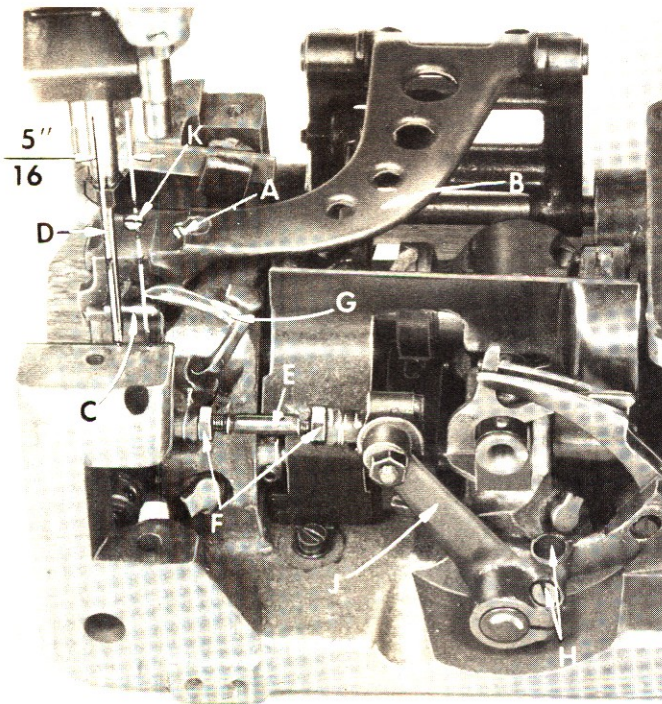
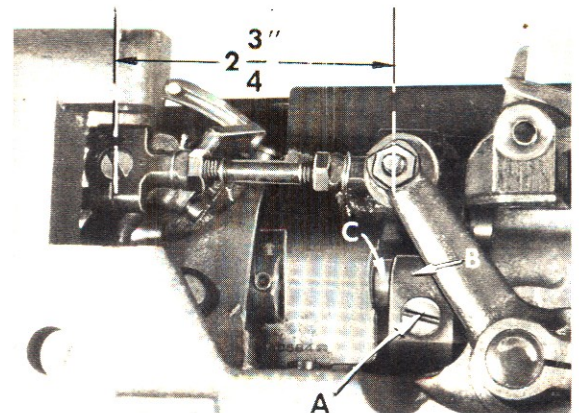
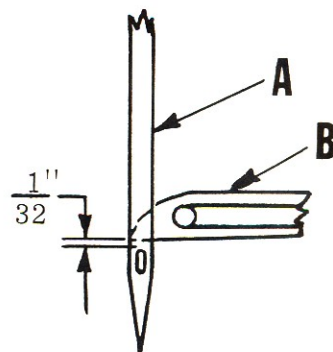
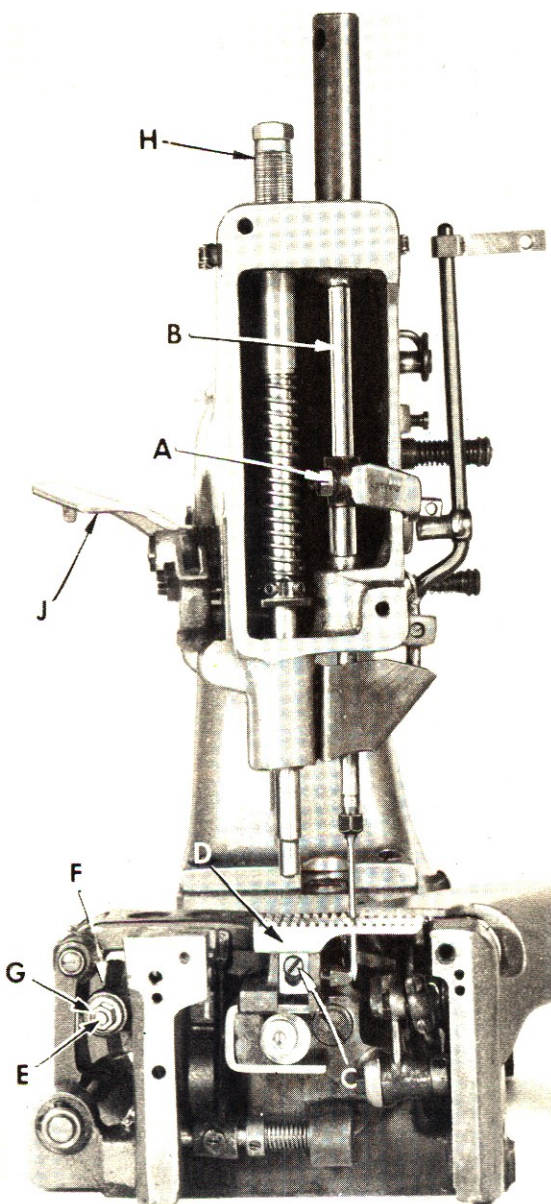

Fig. 2
Fig. 3
Fig. 4
Fig. 5
Remove the presser foot, throat plate and feed dog for convenient access to the machine. Loosen the screw (A, Fig. 2) in the feed bar (B) and push the feed bar needle guard (C) to the rear to avoid its contacting the needle (D). For Styles 80800 E and H, set the looper connecting rod (E) so the distance between the centerlines of the two ball joints is $2 \frac{3}{4}$ inches (See Fig. 3). This dimension should be $2 \frac{11}{16}$ inches on Style 80800 F. If adjustment is necessary, loosen nuts (F, Fig. 2) and turn connecting rod (E) forward or backward as required to obtain specified dimension, retighten nuts (F). NOTE: The right nut has a left hand thread. Set the looper (G) so the distance from the centerline of the needle (D) to the point of the looper (G) is $\frac{5}{16}$ inch, when the looper is at its farthest position to the right. Looper gauge No. 21225- $\frac{5}{16}$ can be used advantageously in making this adjustment. Loosen screws (H) in the looper drive lever (J), reposition as required to obtain specified dimension
and retighten screws (H) assuring that all end play is taken out of the looper drive lever rocker shaft. Check to insure clearance between the point of the looper and the cylinder end cover when the looper is at its extreme left position. Should the looper strike the end cover, RECHECK the distance between centerlines of ball joints and the looper gauge distance as described above. As the looper moves to the left and its point is even with the right side of the needle, the looper should pass as close as possible to the back of the needle without contacting it (.003 to .005 inch clearance). Adjustment can be made by loosening screw (A, Fig. 3) in looper avoid connection link (B) and turn looper rocker shaft (C) forward or backward as required, retighten screw (A).
For Styles 80800 E and H, the height of the needle (A, Fig. 4) is correct when the top of its eye is $\frac{1}{32}$ inch below the underside of the looper (B), with the looper point flush with the left side of the needle. This dimension should be $\frac{3}{64}$ inch on Style 80800 F. If adjustment is necessary, loosen screw (A, Fig. 5) and move needle bar (B) up or down as required and retighten screw.
For Styles 80800 E and H, the height of the feed dog is correct, when at its highest point of travel, the rear teeth project above the throat plate their full depth. On Style 80800 F, the tips of the two rear teeth should project $\frac{1}{32}$ inch above the throatplate at this point. This can be accomplished by removing the feed dog holding screw (C, Fig. 5) and feed dog (D), then adjusting the stop screw (K, Fig. 2) in feed bar (B) as required to maintain the prescribed setting. Assemble feed dog (D, Fig. 5) and feed dog holding screw (C).
Assemble feed dog (D, Fig. 5) and feed dog holding screw (C).
The length of the stitch can be adjusted by raising or lowering the stud (E, Fig. 5) in the segment slot of the feed rocker (F). This can be accomplished by loosening nut (G), lowering stud (E) will lengthen the stitch and raising the stud will shorten the stitch. When desired stitch length position is obtained, retighten nut (G).
Set the feed bar needle guard (C, Fig. 2) so that it barely contacts the needle at its most forward point of travel. Screw (A) secures it in place.
Regulate the pressure on the presser foot using the presser spring regulators (H, Fig. 5) so that the springs exert a pressure sufficient to feed properly. A comparatively heavy pressure is usually required. There should be approximately $\frac{1}{16}$ inch free play in the presser foot lifter lever (J, Fig. 5) when the presser foot is down.